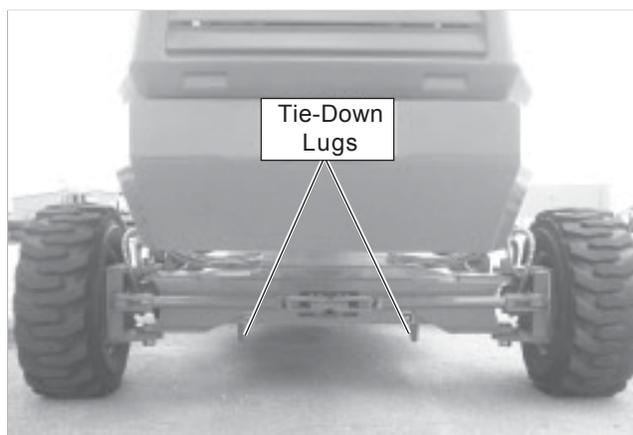

Figure 9.3 – Front Tie-Down Lugs
5. Attach the winch to the tie-down lugs (refer to Figure 9.3) on the front of the chassis.